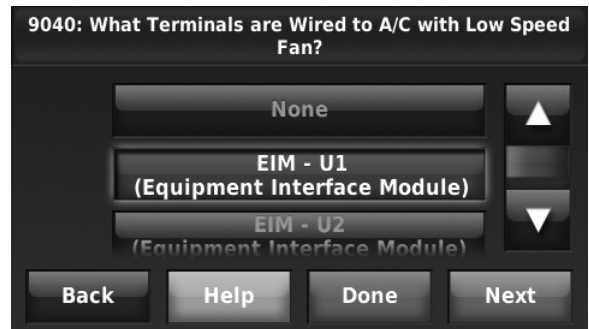

Fig. 115.
4. Select the terminals wired to the A/C with Low Speed Fan. See Fig. 115.